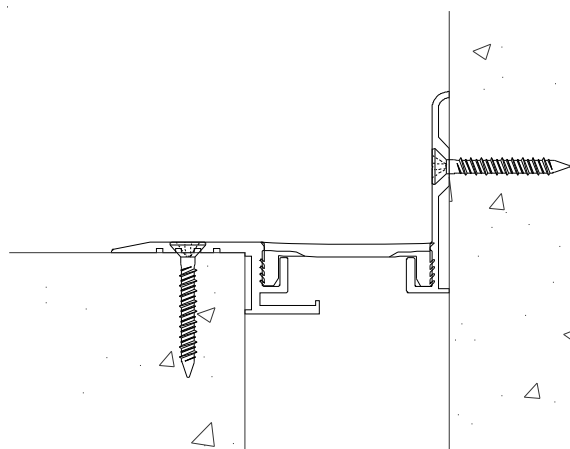

Figure 9
STEP 11. Select the fasteners and the assembled joint cover. Place the assembled joint cover back into its installed position, aligning the anchor holes in the assembly with the anchor holes in the substrate. Shim the system, if needed to assure that it is level along its run. Ensure that the joint cover system is level, firmly supported, and properly aligned. Using the fasteners provided by the factory, fasten the assembled joint cover to the substrate (see Figure 9). Repeat this procedure for each section of the joint cover system.